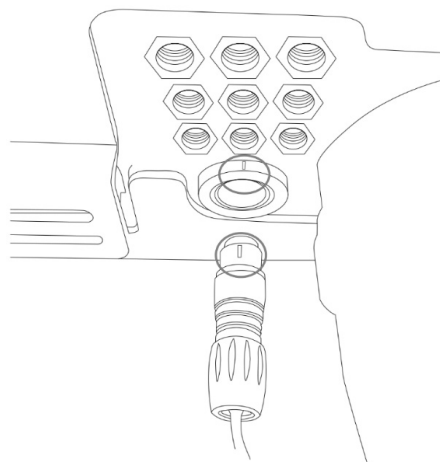

Figure 3: Alignment markings on Heater Connector
2. Plug in Heater Connector (H), aligning white line on the connector with corresponding white line on connector at back of device. (Figure 3)